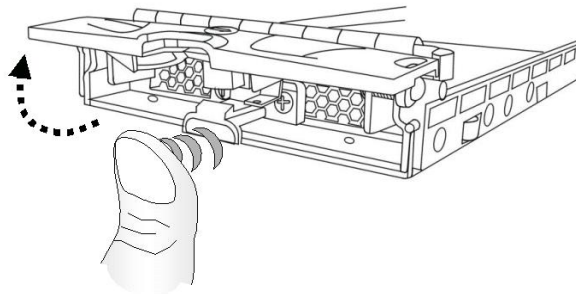
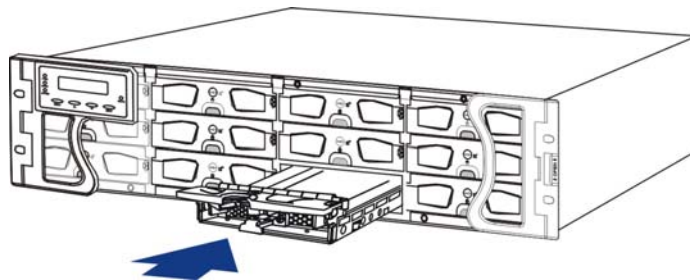

Figure 2-6: Opening Drive Tray Front Flap
Figure 2-7: Installing a Drive Tray
- Step 2. **Open the front flap on the drive tray.** (See *Figure 2-6*). To open the flap, push the release button (shown in *Figure 2-7*) on the front bezel. The front flap will open in an upward direction.